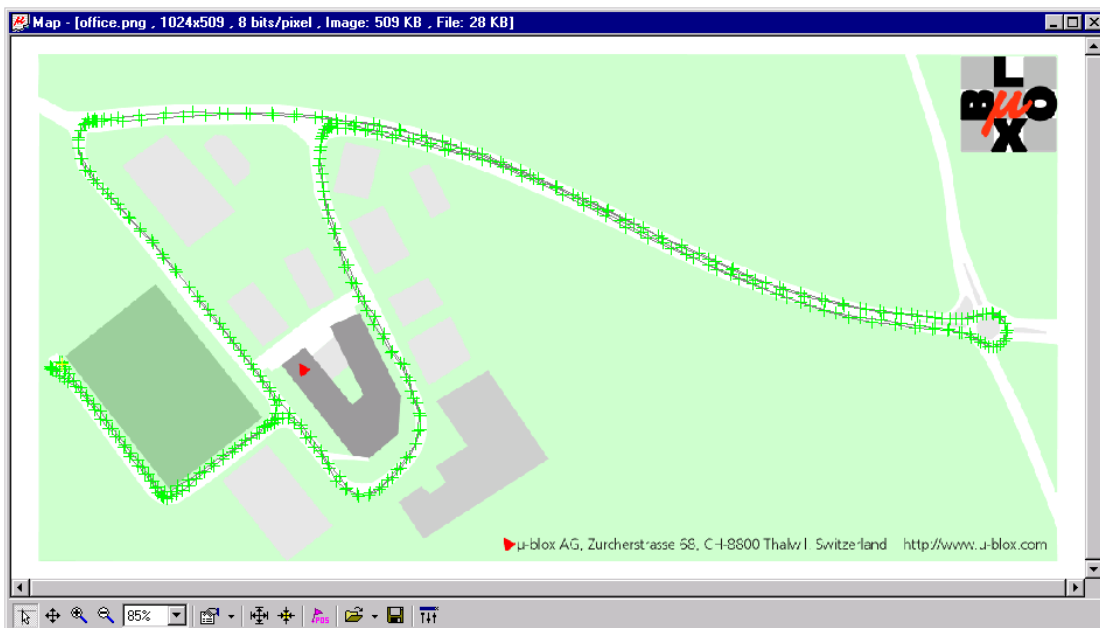

Figure 30: displaying the content of a file
- Now, the stored positions are displayed (Figure 30).